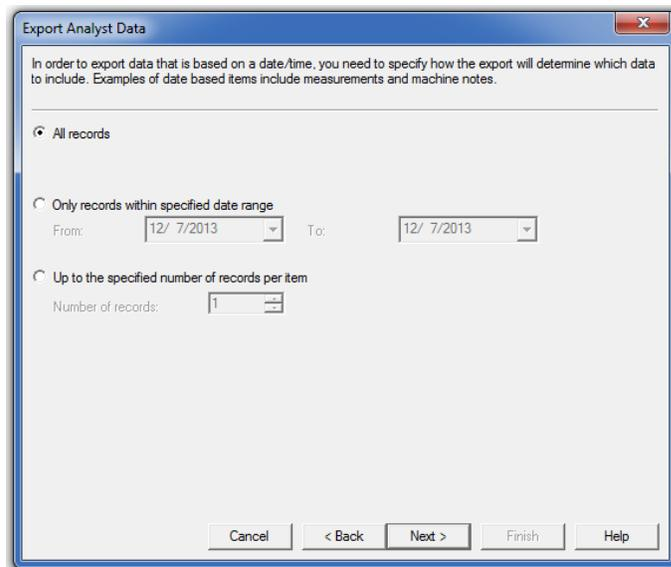

Figure 8. Select records to output
- Select the radio button that matches the output desired and then click **Next >**. [Figure 8]